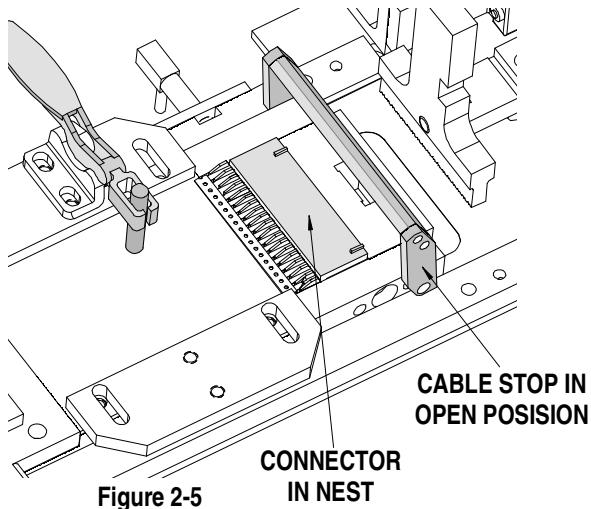

Figure 2-5
1. Load a connector (70430 or 70431) into the respective nest, making sure the terminals are in the terminal guides. See Figure 2-5.